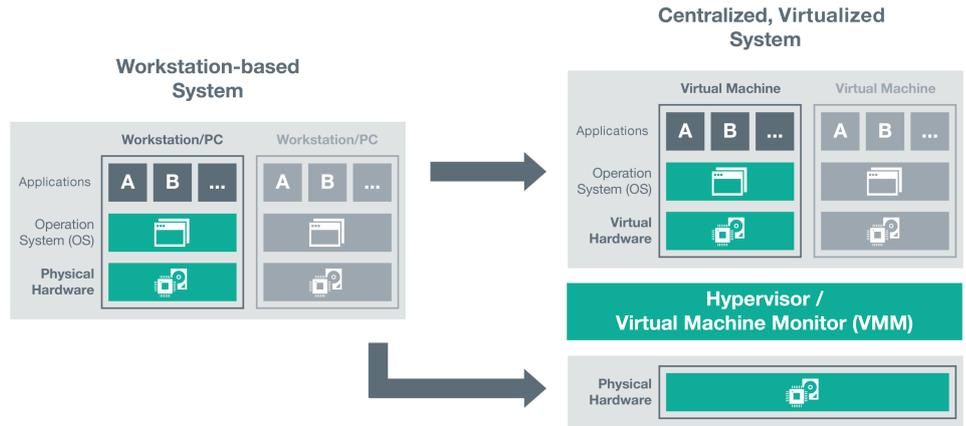

Figure 1.2: Virtualization hardware architecture
Especially in server virtualization and VDI, an additional software layer on the host server enables the virtualization and separation of the hardware and the guest operating system and applications. This software, called a hypervisor, intercepts all operations of the guest OSs and the host server hardware. Each guest OS runs in its own virtual machine (VM) that is a pure software container. It provides a virtual hardware interface and gives the guest OS and applications the impression that they run natively on their own hardware. Each VM has an interface to the hypervisor that controls the physical hardware and assigns the resources concurrently to the VMs. (See Figure 1.2.)